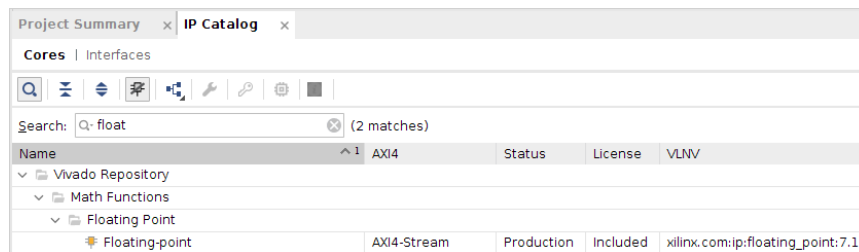

Figure 1: IP Catalog
2. Enter **float** in the **Search** field to find the **Floating-point** IP, as shown in Figure 1.